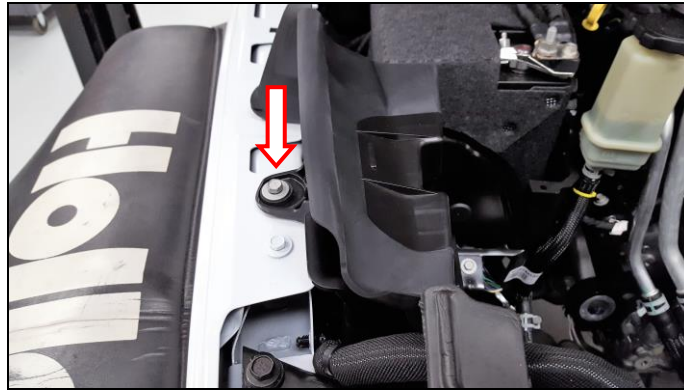

Figure 3
- Remove the remaining screw securing the OE air box and air scoop to the vehicle fender (**Figure 3**). Remove air box and scoop assembly from vehicle. Be careful not to lose the (x2) rubber grommets securing the bottom of the air box as they will be reused.